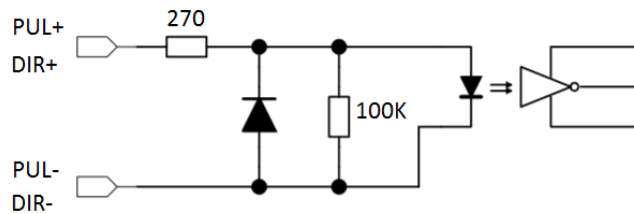

Figure 4.7
Pulse/Dir (CW/CCW) inputs are opto-isolated differential inputs with 270Ω resistor as shown in figure 4.7. Maximum source current for the diode is 25mA.
**Important Note:** If voltage across is greater than 5V, make sure to add current limiting resistor to limit the current to 50mA across the diode. Figure 4.7 shows the detailed schematic of the opto-isolated pulse and direction inputs.